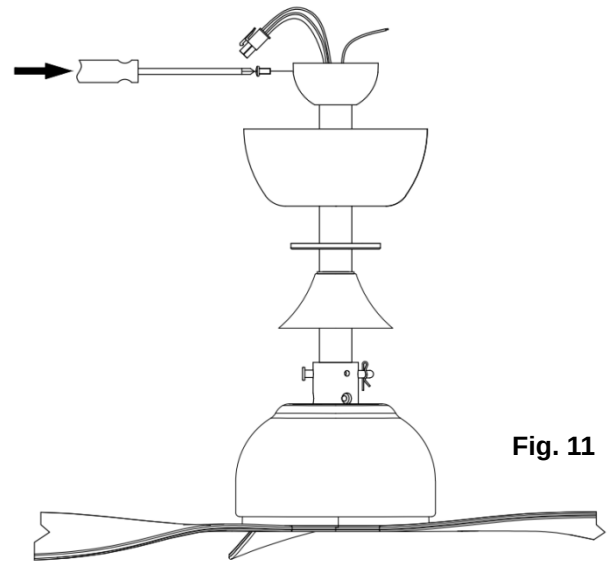

Fig. 11
10. Secure the ball joint by tightening the screw. (Fig. 11)